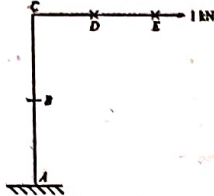

Figure 2: Frame with unit horizontal load at 'E'
- Find out the expressions in Tabular form for moment ' $M$ ' due to external loads,  $m_1$  due to the unit vertical load present at the free end (Figure 1) and  $m_2$  due to the unit horizontal load present at the free end (Figure 2) of the bent.